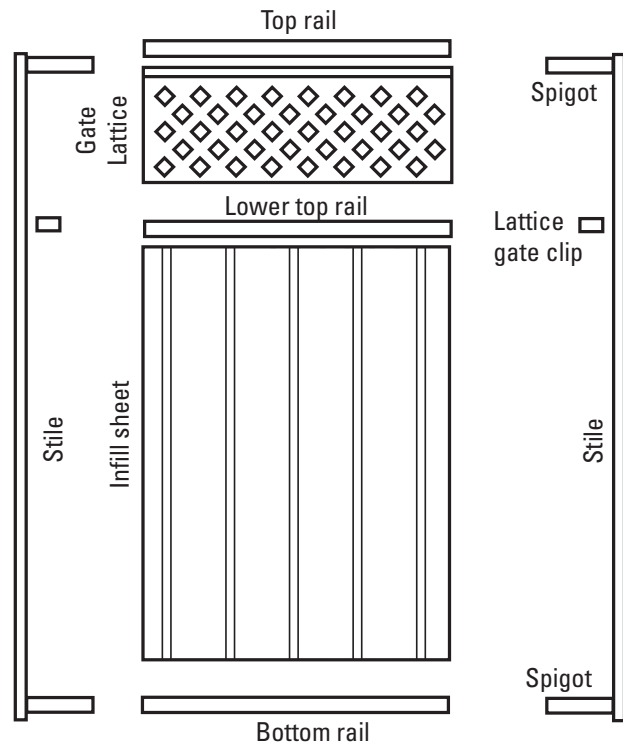

Figure 20.1
2. Lay out all the components (Figure 20.1) on some soft material to protect the COLORBOND® steel finish.